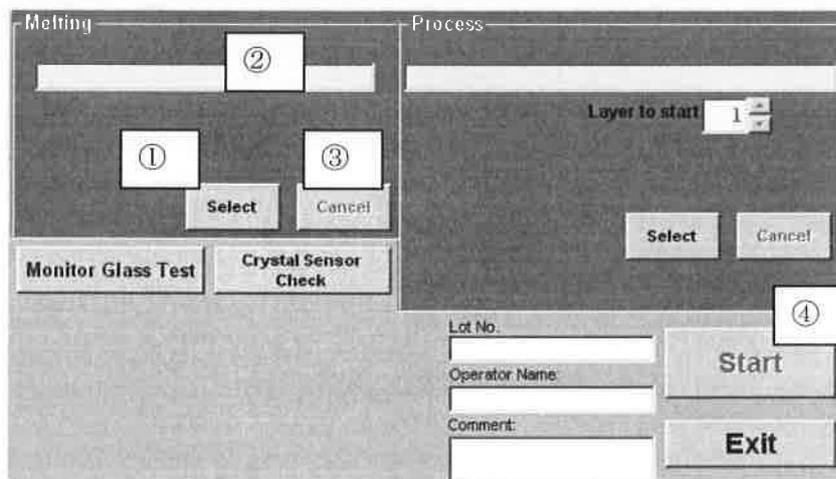

Fig. 36 Start Melting Process
2. Select Melting Process File. (① of Fig. 36)
3. Press Start button(② of Fig. 36).
Name of the selected Melting Process File is displayed at ② in Fig. 36.